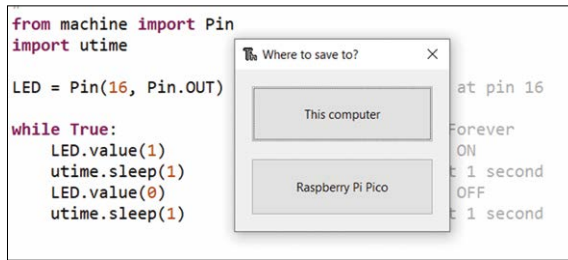

Figure 13.2: Click Raspberry Pi Pico to save file.
- Click **File** followed by **Save as**, then click **Raspberry Pi Pico** (Figure 13.2) to save the file in the Raspberry Pi Pico memory.